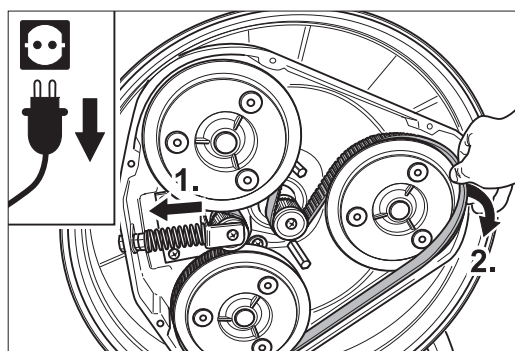

Fig. 39 Push the tooth belt tensioner back and remove the tooth belt.
- 9 Push the tooth belt tensioner back so that the tooth belt can be removed (Fig. 39).